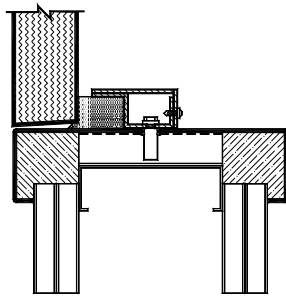

FIGURE 1
**C. Installation In New Metal/Wood Stud Walls (Fig. 1 and 2).** Remove the steel spreader at the bottom and place the frame between the floor tracks. Using vertical wood braces for alignment and temporary wood spreaders at the top, middle and bottom of the frame for squareness, level and set the frame. Cross string the frame to ensure the jambs are properly set and then anchor to the studs and floor using the wall and floor anchors provided. Double king studs extending to the slab above are recommended and 16 Ga.